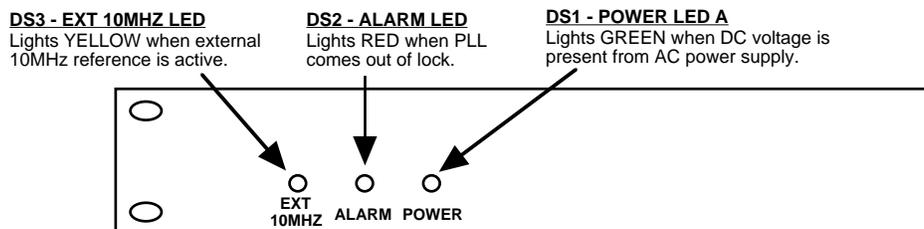

FIGURE 2.2 2116-116 Front Panel Controls and Indicators
Figure 2.2 shows the front panel indicators.
4. Be sure DS1 (green, DC Power) is on and DS2 (red, Alarm) is off (Figure 2.2).
6. If EXT is selected or AUTO is selected and there is a 10MHz, 3 dBm signal at J2, check that DS3 (yellow, Ext 10MHZ) is on (Figure 2.2).